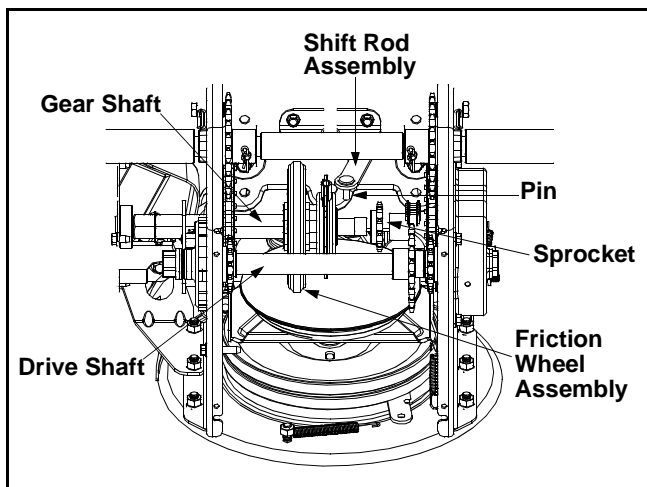

Figure 16
- Holding the friction wheel assembly, slide the hex shaft out of the left side of the frame. The spacer on the right side of the hex shaft will fall and the sprocket should remain hanging loose in the chain. See Figure 16.